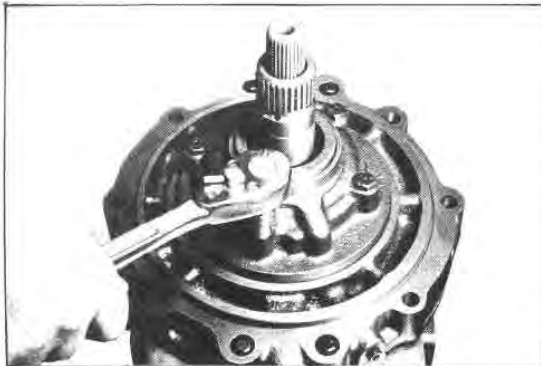

Fig. G87 — Mounting the Pump Assembly
57. Align the mounting bolt holes in the pump assembly with those in the adaptor, and install the bolts in the pump assembly (Figure G87). Tighten the bolts to 17 to 22 lbs./ft. torque.